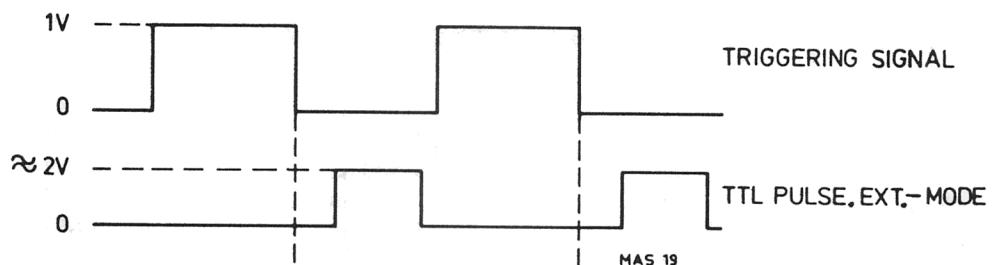

Fig. IX-2 External triggering, EXT—mode.
3.6. Check that oscilloscope displays waveform similar to fig. IX-2.